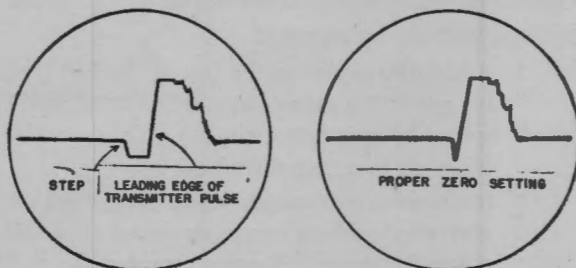

Figure 4 SJ-6. Transmitter pulse for proper zero set.
- By adjusting the set range zero knob, move the step to the right until the leading edge of the transmitter pulse meets the downward portion of the step, as shown in figure 4 SJ-6.